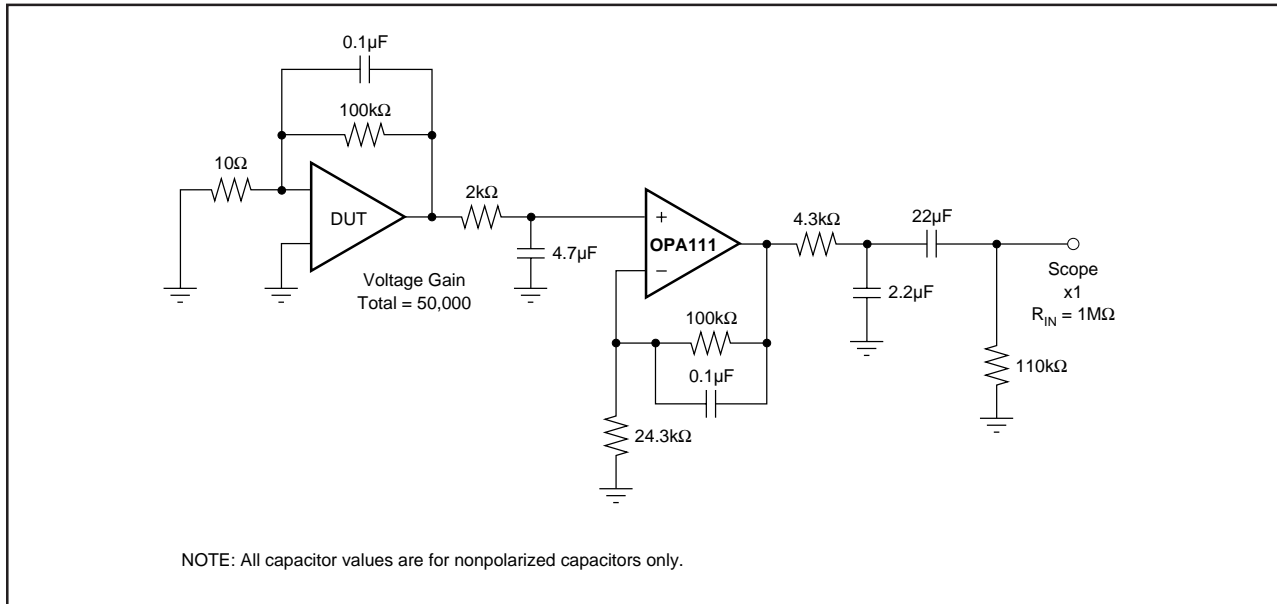

FIGURE 1. 0.1Hz to 10Hz Noise Test Circuit.
NOTES: (1) Measured with industry-standard noise test circuit (Figures 1 and 2). Due to errors introduced by this method, these current noise specifications should be used for comparison purposes only. (2) Offset voltage specification are measured with automatic test equipment after approximately 0.5 seconds from power turn-on. (3) Unnulled or nulled with 8k $\Omega$  to 20k $\Omega$  potentiometer. (4) Long-term voltage offset vs time trend line does not include warm-up drift. (5) Typical specification only on plastic package units. Slew rate varies on all units due to differing test methods. Minimum specification applies to open-loop test. (6) This parameter guaranteed by design.